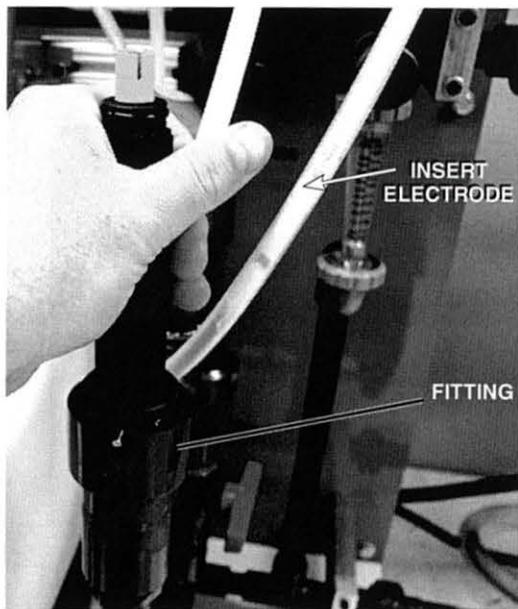

Figure 72. Insert Electrode Housing into Fitting
F. Insert the electrode housing into the open fitting, as shown in figure 72. Make sure the studs on the housing fit into the slots in the fitting and push the electrode housing down until it is fully seated in the fitting.